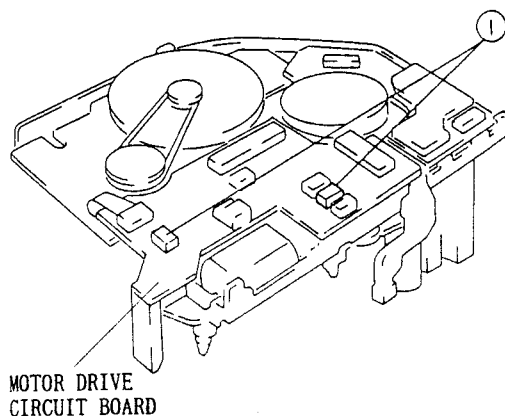

Fig. 2-51
1. Disconnect two (2) connectors (CN554, CN558) on the motor drive circuit board. (See Fig. 2-51)
1. Remove the cassette holder. (See Figs. 2-51, 2-52, 2-53)